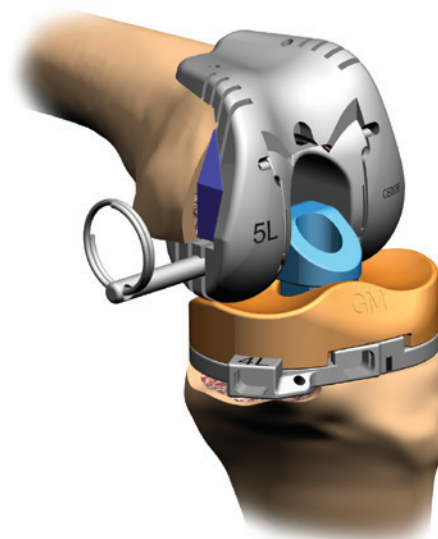

Figure 74
4. Insert the Trial Axle through the Femoral Trial and Trial Link (Figure 74).